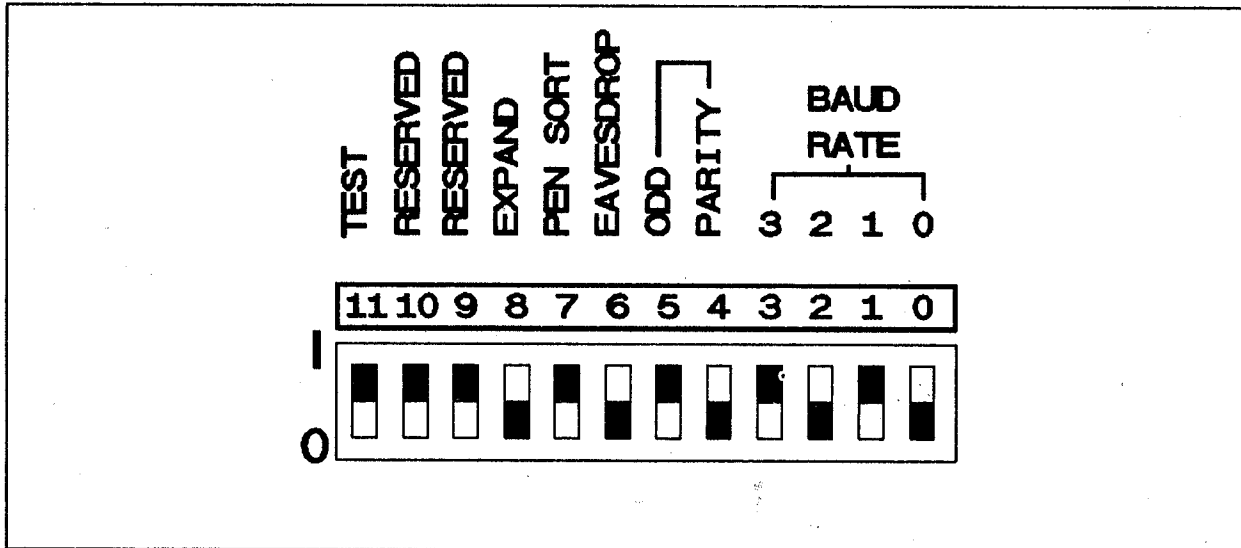

Figure 8-9. Servo Test Switches
- e. Set the rear panel TEST switch (11) and both RESERVED switches (9 & 10) to the I (on) position. See Figure 8-9.